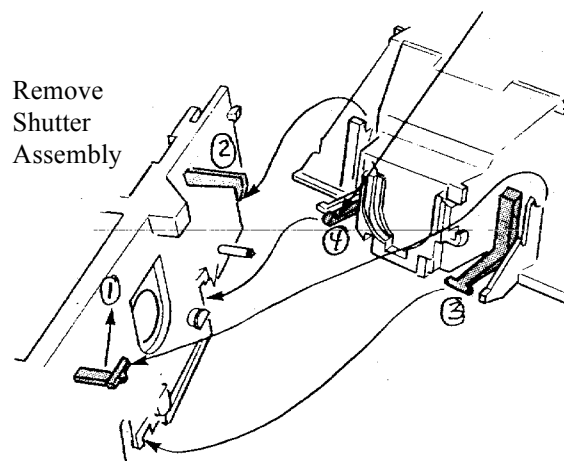

Figure 4-20 Removing entire Shutter Assembly as a unit
- a. Baseblock is held to Cone by four spring fingers: two visible on the top of the Baseblock which engage shoulders on the Cone, two more partially hidden on the bottom of Cone which engage shoulders on the bottom of the Baseblock (see locations 1, 2, 3 & 4 on Figure 4-20). Start removal with the top fingers, 1 & 2.